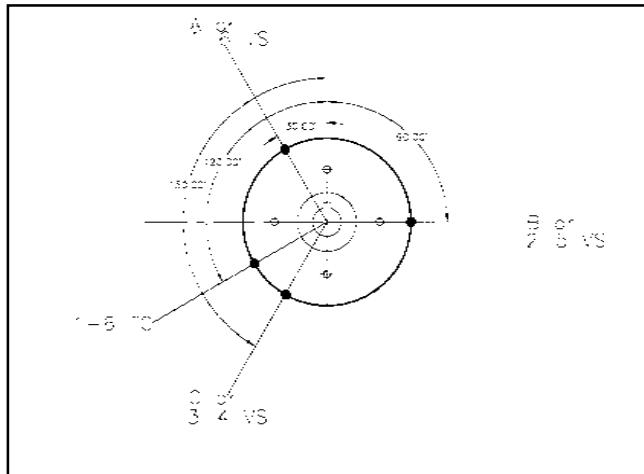

Fig. 6-1. Accessory drive pulley marking—N-855
1. Bar the engine until "A" or 1-6 "VS" mark on the pulley, Fig. 6-1, is aligned with the pointer on the gear case cover. In this position, both valve rocker levers for cylinder No. 5 must be free (valves closed). The injector plunger for cylinder No. 3 must be at top of its travel; if not, bar the engine through 360 degrees. realign the mark with the pointer.